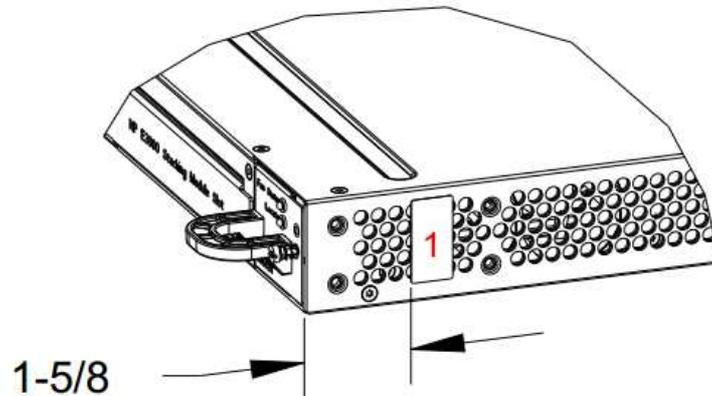

Figure 13 – Left-Hand Side Vent Openings Tamper-Evidence Label Placement (Step 1)
On the left-hand side of the switch (when looking at the switch from the front), a succession of seven (7) labels will be placed toward the rear of the module. The purpose of these labels is to provide additional opacity to the 3800 Switch Series chassis. From 1-5/8 inches from the rear of the module, place the first Tamper-Evidence Label (Figure 13).